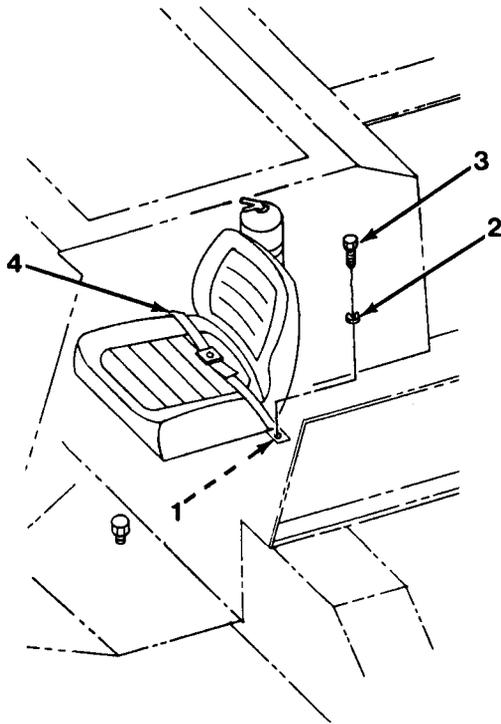

Figure 14-1
1. Remove two lock nuts (1) and washers (2, Figure 14-1).
2. Remove two capscrews (3) and seat belts (4) from inside cab floor.